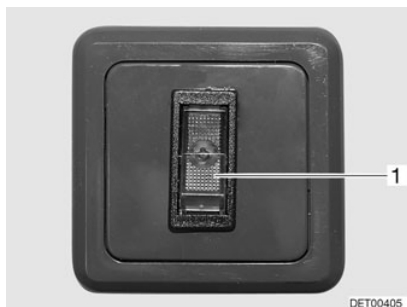

Fig. 68 Switch for heat exchanger
- Press upper part of the rocker switch (Fig. 68,1). The heat exchanger is switched on.
- Press lower part of the rocker switch (Fig. 68,1). The heat exchanger is switched off.